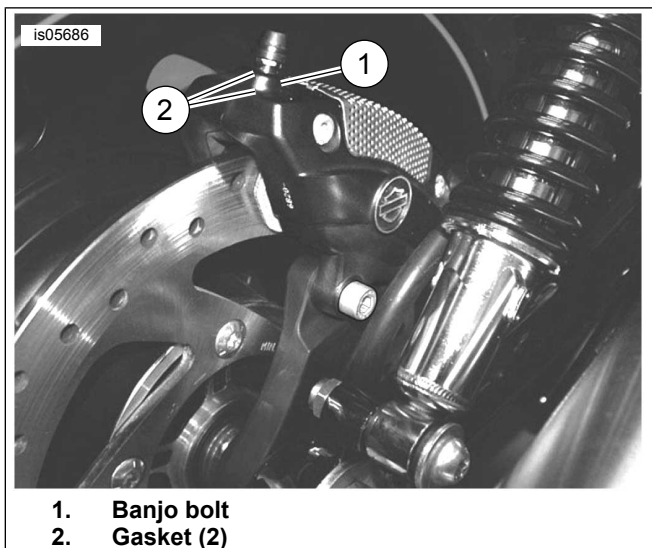

Figure 2. Rear Brake Caliper (brake line shown removed) - VRSC Shown
2. See Figure 2. Remove banjo bolt and two gaskets. Discard gaskets and banjo bolt.